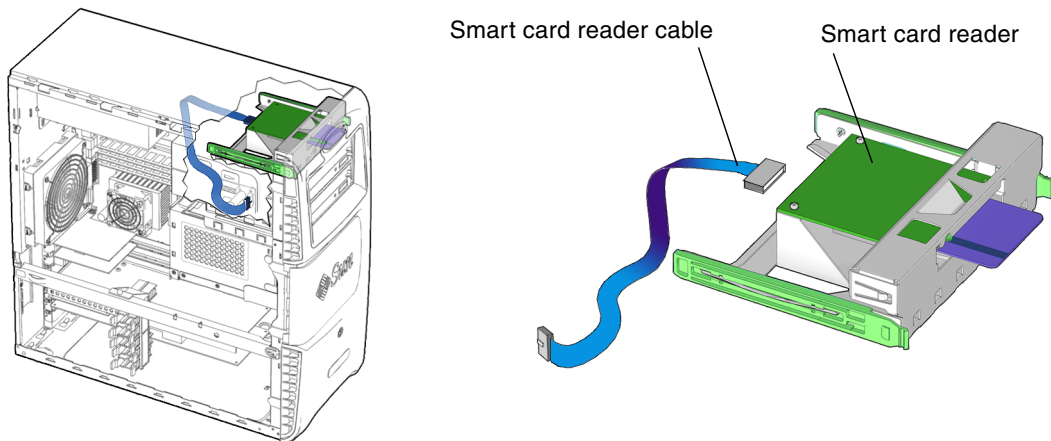

FIGURE 14-2 Smart Card Reader Location and Identification
The smart card cable connects the smart card reader to the motherboard. It is a 10 conductor, signal (data) ribbon cable (FIGURE 14-2).
2. **Locate where the smart card reader cable is to be installed** (FIGURE 14-2).